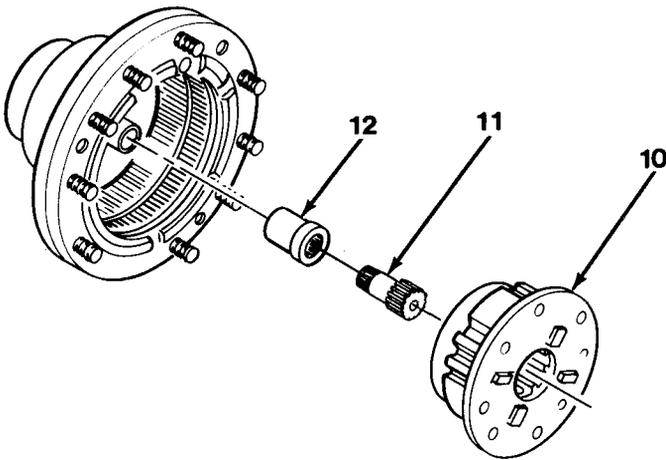

Figure 12-3
8. Remove planetary gear carrier assembly (10, Figure 12-3) by pulling outward.
9. Remove sun gear (11) and coupler (12).